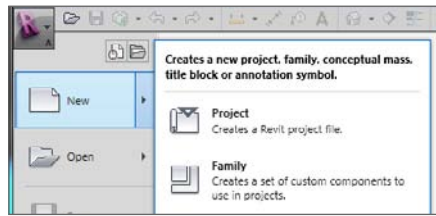

Figure 14.1
1. Go to the application menu, and choose New → Family (Figure 14.1).